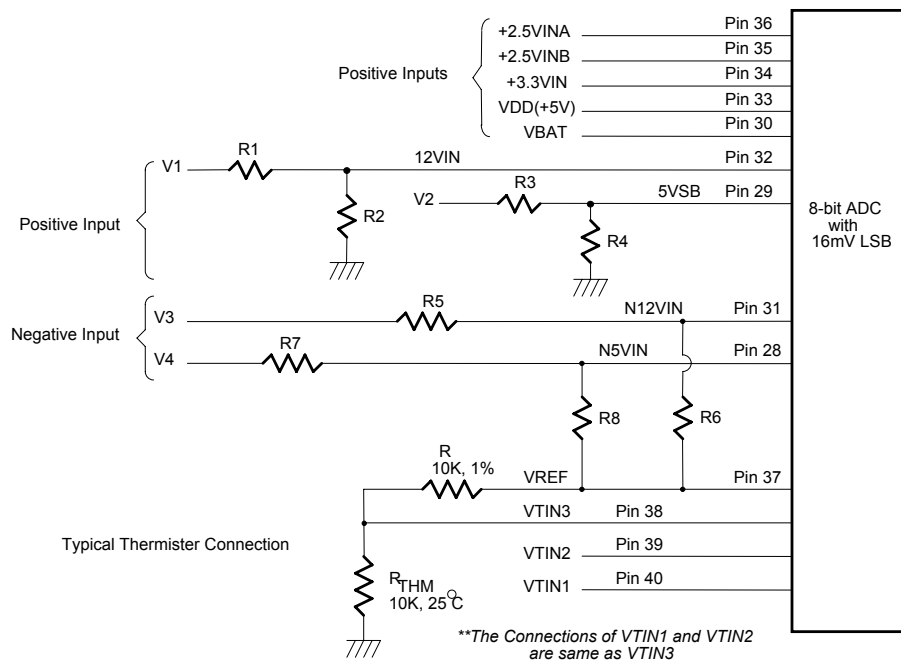

Figure 11.
The maximum input voltage of the analog pin is 4.096V because the 8-bit ADC has a 16mV LSB. Really, the application of the PC monitoring would most often be connected to power suppliers. The CPU V-core voltage, +3.3V and battery voltage can directly connect to these analog inputs. The 5VSB and +12V inputs should be reduced a factor with external resistors so as to obtain the input range. As Figure 11 shows.
The negative voltage should be connected two series resistors and a positive voltage VREF (is equal to 3.6V). In the Figure 11, the voltage V3 and V4 are two negative voltages which are -12V and -5V, respectively. The voltage V3 is connected to two serial resistors then is connected to another terminal VREF which is positive voltage. So as that the voltage node N12VIN can be obtain a posedge voltage if the scales of the two serial resirtors are carefully selected. It is recommended from Winbond that the scale of two serial resistors are R5=232K ohms and R6=56K ohm. The input voltage of node -12VIN can be calculated by following equation.
The W83782D/G can connect three thermistors to measure three different environment temperatures. The specification of thermistor should be considered to (1)  $\beta$  value is 3435K, (2) resistor value is 10K ohms at 25°C. In the Figure 11, the thermistor is connected by a serial resistor with 10K Ohms, then connect to VREF (Pin 37).